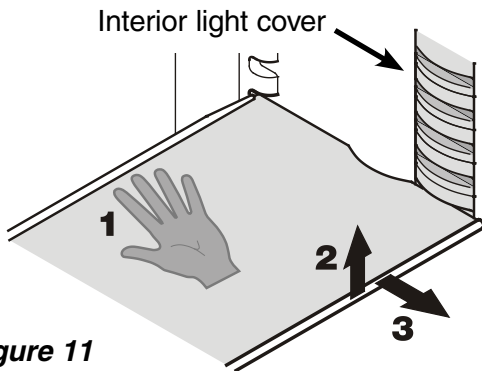

Figure 11
Repositioning the shelves - *Figure 11*
- Remove glass shelves as shown in **Figure 11**.